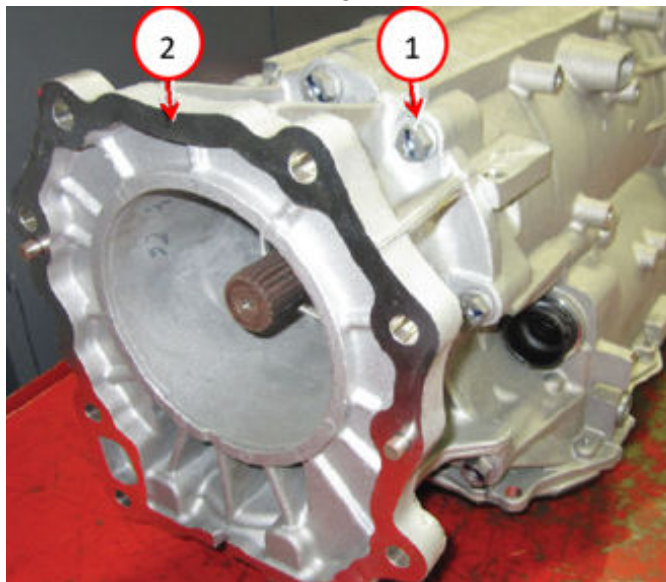

Fig. 53
80. 4X4 ONLY, If equipped, position the extension housing and install the extension housing bolts Fig. 53.